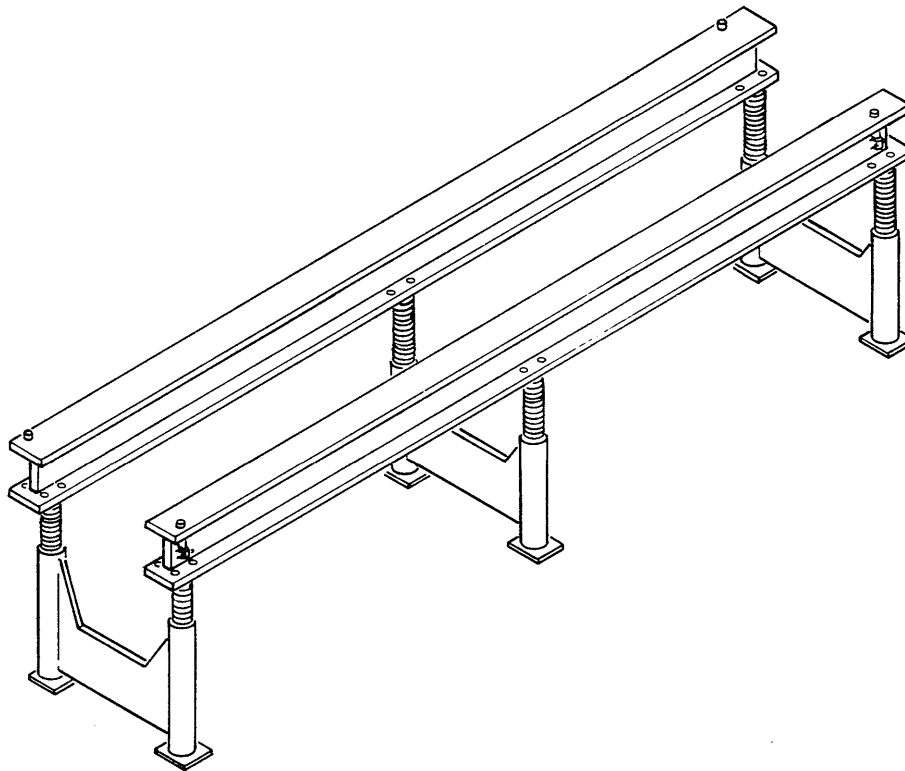

Figure 9-3. Engine Maintenance Stand
(3) Aircraft engine maintenance stand. The aircraft engine maintenance stand, shown in figure 9-3, provides an essentially nonmovable work station for repair of aircraft engines.